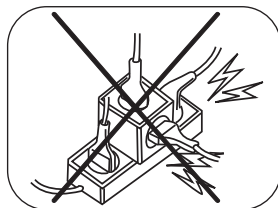

Fig.2A
- 3► **Never** use extensions, voltage transformers or any kind of adapters (Fig.2A, page 8).